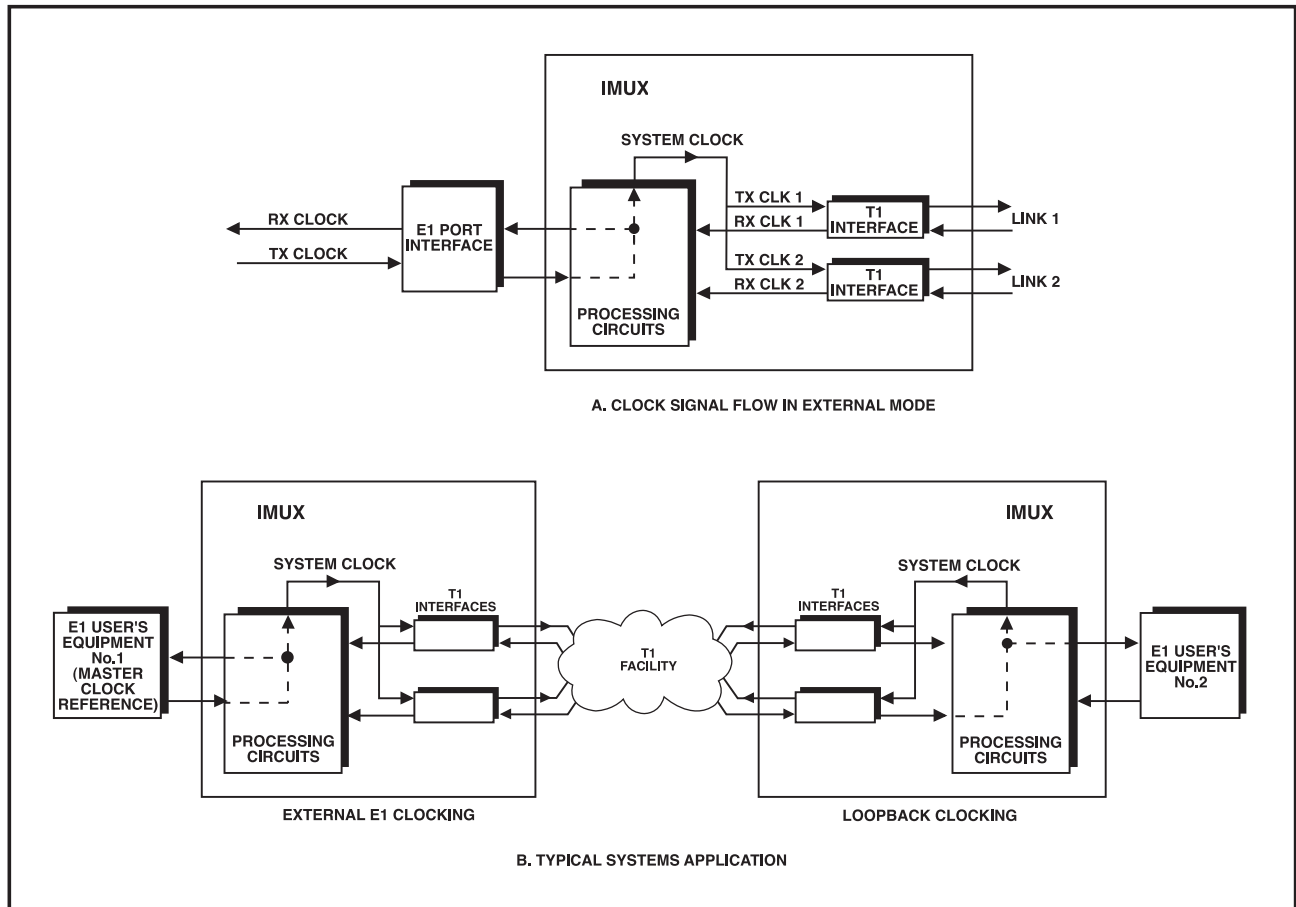

Figure 7-6. Flow of Timing Signals in External E1 Timing Mode.
**Part A** of **Figure 7-6** shows the flow of timing signals in an 2T1/E1 IMUX using the external E1 timing mode.
When external E1 clocking is used by an 2T1/E1 IMUX, the 2T1/E1 IMUX at the remote end of the link must use either loopback timing, or external timing derived from the same timing source that provides the timing signal for the other 2T1/E1 IMUX. **Part B** of **Figure 7-6** shows the flow of timing signals in a system that uses external E1 timing at one end of the link, and loopback timing at the other end of the link.